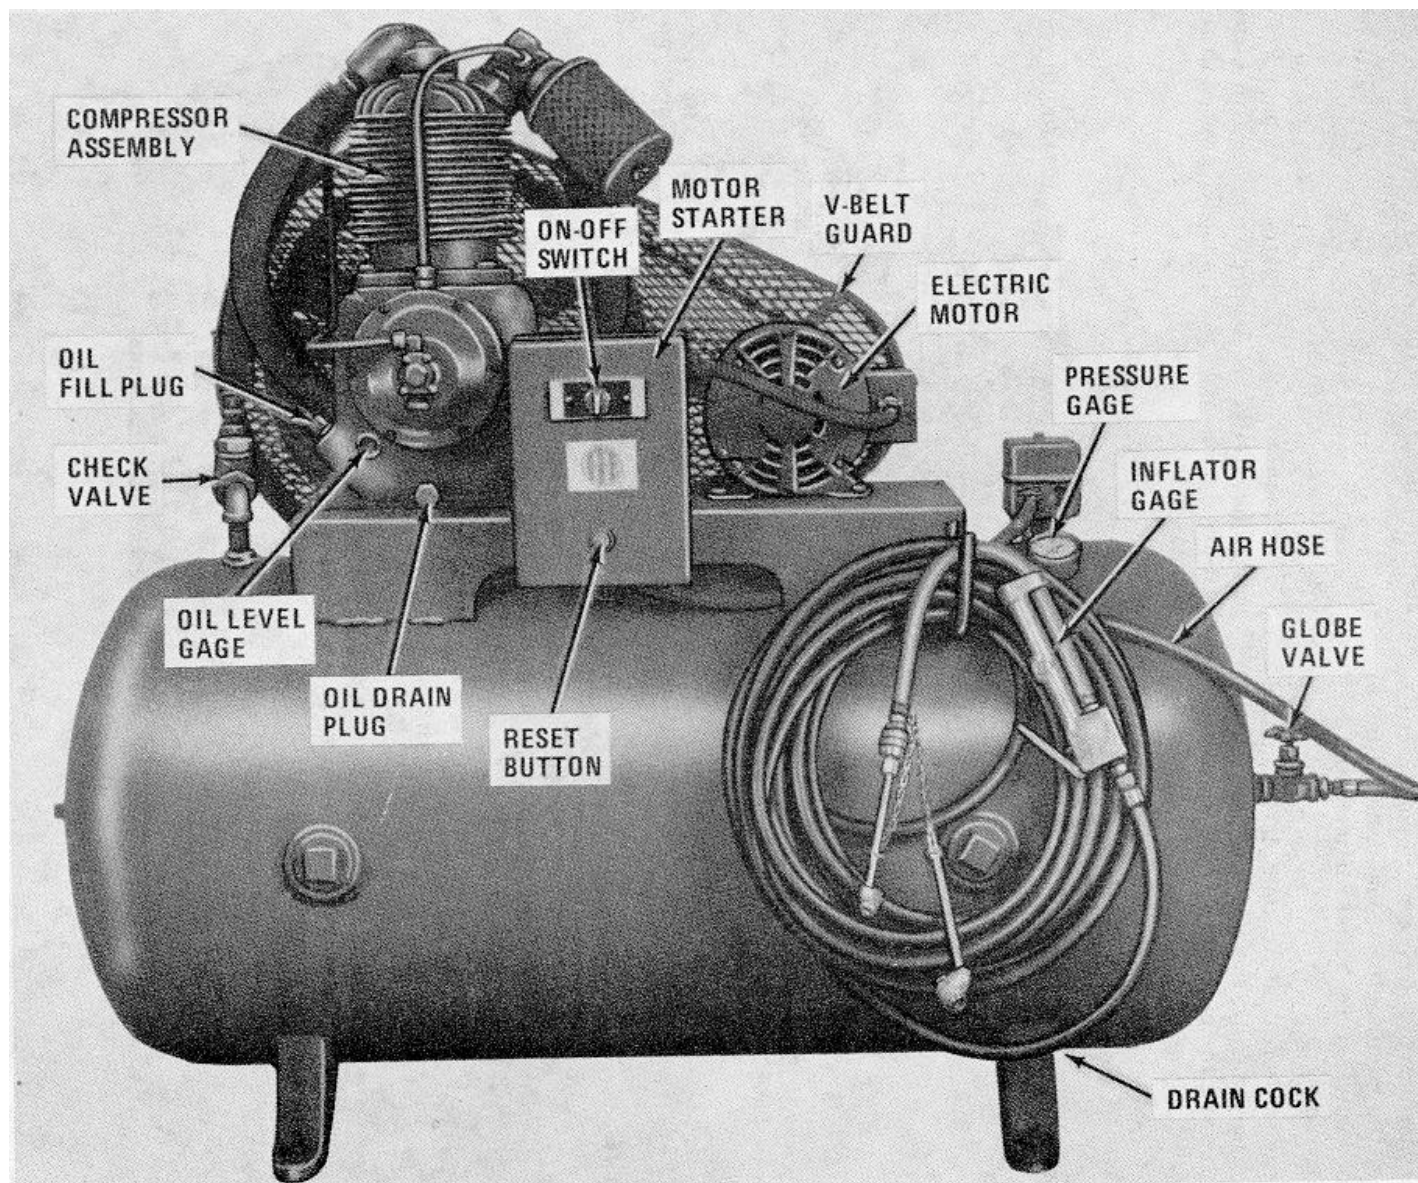

Figure 1-1. Air Compressor, right side view.
**a.** The HR2-6M-1 (figs. 1-1 and 1-2) is a two cylinder, reciprocating type air compressor capable of delivering 5 cubic feet per minute (0.1415 cu meters per min). The compressor assembly and associated electric motor are mounted on a frame which is welded to the air receiver, and 60 gallon steel tank. The electric motor drives the compressor assembly by means of a matched pair of V-belts.
**b. Globe Valve.** The globe valve (fig. 1-1) mounted on the end of the air receiver tank is a manually operated valve that opens the flow of compressed air to the air hose.
**c. Drain Cock.** The drain cock (fig. 1-1) mounted on the underside of the air receiver tank is a manually operated valve used to drain compressed air and condensation from the air receiver tank. Receiver should be drained daily when the air compressor is in use.
**d. Oil Level Gage.** The oil level gage (fig. 1-1) mounted in the compressor crankcase is a direct reading, glass covered gage used to check the level of the oil in the compressor crankcase.
**e. Air Receiver Tank Pressure Gage.** The air receiver tank pressure gage (fig. 1-1) mounted on the side of the air receiver tank, is a needle-indicating, direct-reading, pressure-operated gage graduated in pounds per square inch (psi) and kilograms per square centimeter (kgs per sq cm), the gage is graduated from 0 to 300 psi in increments of 5 psi, and from 0-21.1 kgs sq cm in increments of 50 centimeters. The gage indicates the air pressure in the air receiver tank. Normal operating pressure is 165 psi (11.60 kgs per sq cm) to 190 psi (13.36 kgs per sq cm).
**g. ON-OFF Starter Switch.** The on-off starter switch (fig. 1-1) is a manually actuated switch located top center of the motor starter box cover. In OFF position the compressor motor will not operate. When the selector is turned to ON position the compressor will operate until pressure in air receiver tank reaches 190 psi (13.36 kgs per sq cm) then the pressure switch automatically shuts-off the motor. The compressor will recycle again automatically when pressure drops below 165 psi (11.60 kgs per sq cm) and continue to cycle automatically in this ON position.
**h. Reset Button.** The reset button (fig. 1-1) mounted on the cover of the magnetic starter, below the ON-OFF switch, is manually operated button, which when pushed, resets the thermal relay in the magnetic starter.
**j. Inflator Gage.** The inflator gage (fig. 1-1) controls and indicates the amount of air being discharged.
(1) Inspect the electric motor to make sure it is properly wired from incoming power source and that power is on.
(2) Turn ON-OFF switch (fig. 1-1) to "ON" position.
Should the compressor fail to start, depress the reset button (fig. 1-1).
(2) Turn ON-OFF switch (fig. 1-1) to "OFF" position.
(3) Open the drain cock (fig. 1-1) in the bottom of air receiver tank to release the compressed air and condensation from the air receiver tank.